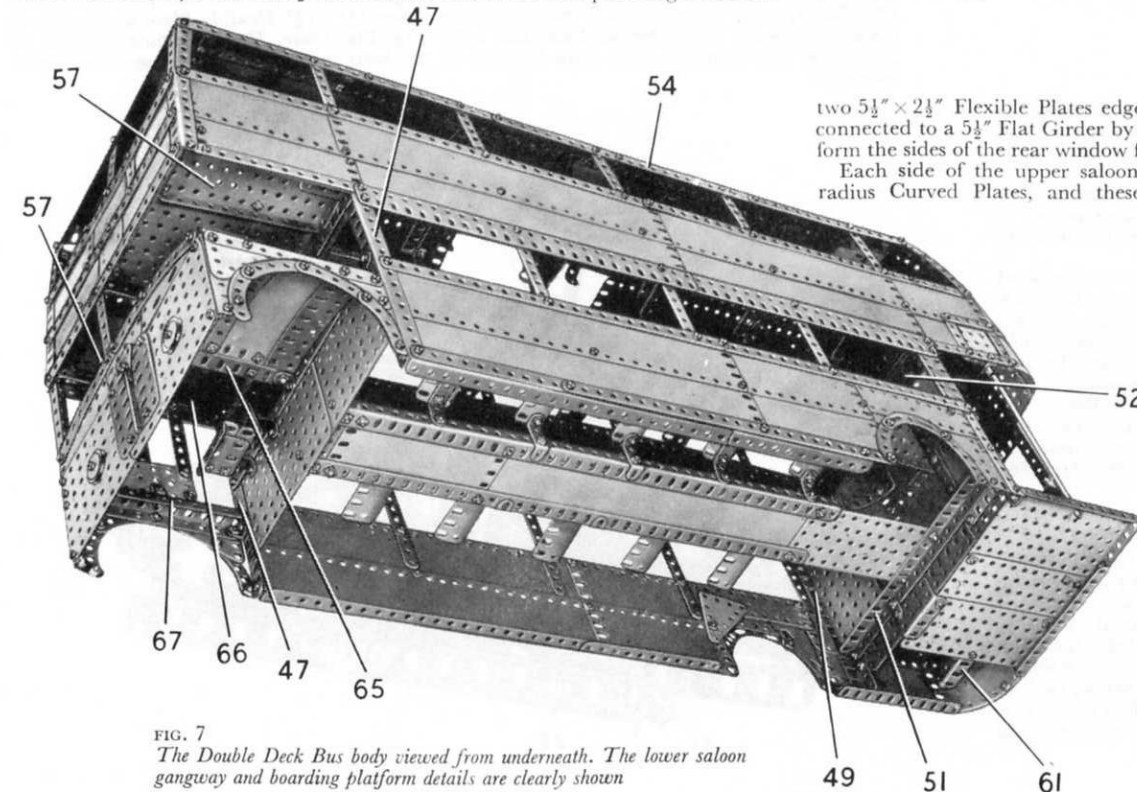
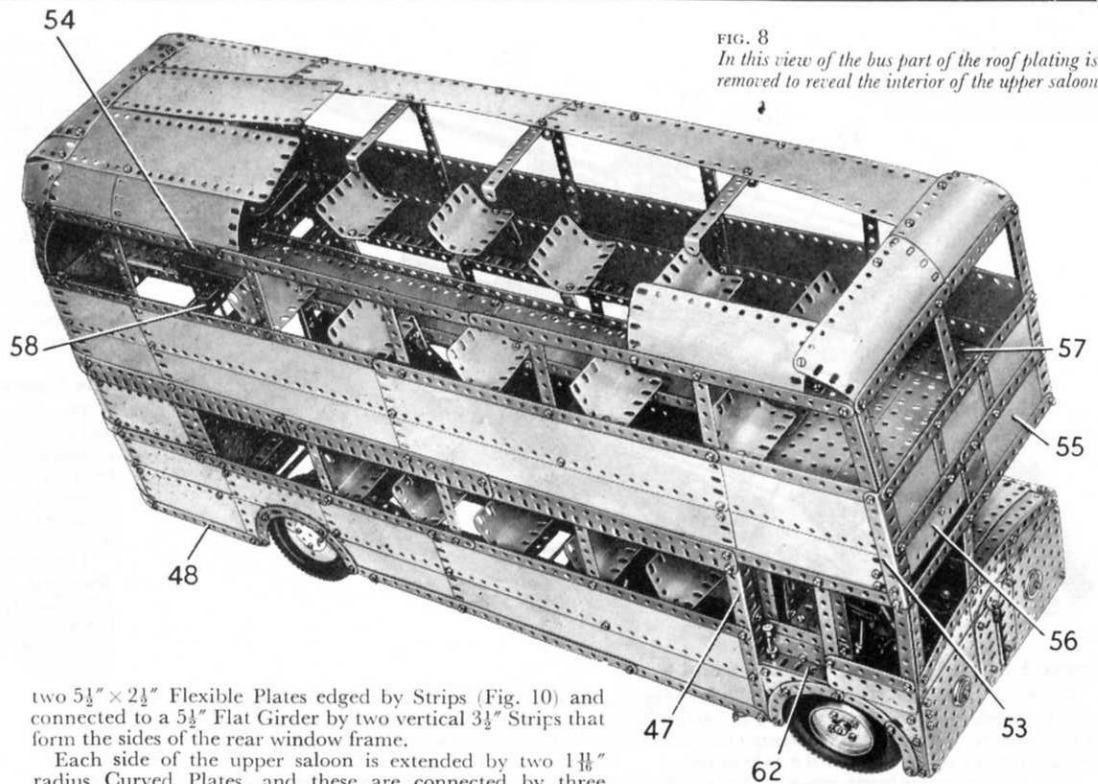

FIG. 7
FIG. 8
The Lower Saloon (Figs. 8 and 9)
The side seen in Fig. 8 consists of two $12\frac{1}{2}" \times 2\frac{1}{2}"$ Strip Plates and four $5\frac{1}{2}" \times 2\frac{1}{2}"$ Flexible Plates, with a $5\frac{1}{2}" \times 1\frac{1}{2}"$ Flexible Plate and a $3\frac{1}{2}" \times 2"$ and a $2\frac{1}{2}" \times 1\frac{1}{2}"$ Triangular Flexible Plate over the rear wheel arch. The Plates are fixed to a $7\frac{1}{2}"$ Angle Girder (47) at the front, and are edged along the top by two $12\frac{1}{2}"$ Strips and a $5\frac{1}{2}"$ Strip. The lower edges are strengthened by a $12\frac{1}{2}"$ Strip, a $5\frac{1}{2}"$ Strip and a $5\frac{1}{2}"$ Angle Girder (48), with a $12\frac{1}{2}"$ and a $5\frac{1}{2}"$ Angle Girder bolted to the inside (Fig. 7). A $9\frac{1}{2}"$ Angle Girder (49) is fixed vertically to the side, and to it is bolted a $4\frac{1}{2}" \times 2\frac{1}{2}"$ Flexible Plate and a $3\frac{1}{2}"$ Flat Girder. The window divisions are $12\frac{1}{2}"$ Strips, each of which overlaps the side by four holes. These Strips are connected by three $9\frac{1}{2}"$ Flat Girders. A $24\frac{1}{2}"$ Angle Girder is bolted along the top row of holes in the Flat Girders, on the inside, starting at the Girder (49) so that it overhangs the Girder (47) by three holes.
The sides are connected at the front by two $5\frac{1}{2}" \times 3\frac{1}{2}"$ Flat Plates overlapped three holes and edged at the top by a $9\frac{1}{2}"$ Strip. The Flat Plates are fixed to the Girders (47), and a $9\frac{1}{2}"$ Angle Girder (50) is bolted between their top ends. A vertical $5\frac{1}{2}" \times 1\frac{1}{2}"$ Flexible Plate is attached to the centre of the Girder (50) and to the Flat Plates. At the rear the sides are connected by $9\frac{1}{2}"$ Angle Girders (51) and (52) (Fig. 7), bolted to the Girders (49).
The side seen in Fig. 8 consists of two $5\frac{1}{2}" \times 2\frac{1}{2}"$ Flexible Plates, four $12\frac{1}{2}" \times 2\frac{1}{2}"$ Strip Plates and two $4\frac{1}{2}" \times 2\frac{1}{2}"$ Flexible Plates. These are fixed to the vertical $12\frac{1}{2}"$ Strips that form the window divisions. At the front a $4\frac{1}{2}"$ Angle Girder (53) is connected to the top edge of the lower saloon by a $7\frac{1}{2}"$ Strip. The top edges of the Plates are strengthened by two $12\frac{1}{2}"$ Strips and two $5\frac{1}{2}"$ Strips. A built-up strip (54), made from three $12\frac{1}{2}"$ Strips, is bolted to the top ends of the window divisions. In addition to the vertical $12\frac{1}{2}"$ Strips, two $5\frac{1}{2}"$ Strips, a 4" Curved Strip and a $3\frac{1}{2}"$ Strip at the front, are used to form the windows of the upper saloon.
At the front of the bus the Girders (53) are connected by two $9\frac{1}{2}$ " Strips and a built-up strip made from two $5\frac{1}{2}$ " Strips overlapped three holes (Fig. 8). The front is plated by three $3\frac{1}{2}$ " \times $2\frac{1}{2}$ " Flexible Plates at the top, with one half of a Hinged Flat Plate (55), a $2\frac{1}{2}$ " \times $1\frac{1}{2}$ " Flexible Plate and a $5\frac{1}{2}$ " \times $1\frac{1}{2}$ " Flexible Plate (56) below them. The Plate (56) is extended upward by another $5\frac{1}{2}$ " \times $1\frac{1}{2}$ " Flexible Plate, and this is recessed from the $3\frac{1}{2}$ " \times $2\frac{1}{2}$ " Flexible Plates by nuts on the bolts that fix them together. The front ends of the strips (54) are connected by Angle Brackets to two $5\frac{1}{2}$ " Strips overlapped three holes.
A $5\frac{1}{2}$ " \times $2\frac{1}{2}$ " Flanged Plate (57) (Fig. 7) is bolted to each side, and these are connected by a $5\frac{1}{2}$ " \times $3\frac{1}{2}$ " Flat Plate and a $5\frac{1}{2}$ " \times $2\frac{1}{2}$ " Flat Plate. At the rear a $9\frac{1}{2}$ " Flat Girder (58) is bolted between the top ends of the Girders (49) and a $5\frac{1}{2}$ " \times $2\frac{1}{2}$ " Flanged Plate is fixed between this Flat Girder and the rear panelling. Two $4\frac{1}{2}$ " \times $2\frac{1}{2}$ " Flexible Plates secured to the Flanged Plate provide a cover over the boarding platform. A $4\frac{1}{2}$ " Angle Girder is fixed to the centre of the Flat Girder (58).
Rear Panelling and Boarding Platform (Figs. 7, 8 and 10)
The side of the lower saloon seen in Fig. 8 is extended at the rear by three curved $5\frac{1}{2}"$ \times $2\frac{1}{2}"$ Flexible Plates, the lower one edged by a Formed Slotted Strip at the bottom, and by a curved $5\frac{1}{2}"$ Strip along its top edge. The lower edge of the top Plate is covered by a curved $5\frac{1}{2}"$ Flat Girder. The lower rear panelling consists of
The platform floor is formed by a $5\frac{1}{2}"$ \times $3\frac{1}{2}"$ and two $5\frac{1}{2}"$ \times $2\frac{1}{2}"$ Flat Plates edged by $5\frac{1}{2}"$ Angle Girders as shown (Figs. 7 and 10). A built-up flat girder, made from a $7\frac{1}{2}"$ and a $2\frac{1}{2}"$ Flat Girder, is bolted to a $9\frac{1}{2}"$ Strip fixed across the Girders (49) and is connected to the floor by a Girder Bracket.
The Bonnet and Cab (Figs. 8 and 9)
The off-side of the cab is made by attaching a $5\frac{1}{2}$ " Angle Girder (62) (Fig. 8), to the Girder (47) by means of an Angle Bracket. The front end of the Girder (62) is connected to the Girder (53) by a $5\frac{1}{2}$ " Strip. The side is plated by a $2\frac{1}{2}$ " \times $1\frac{1}{2}$ " and a $2\frac{1}{2}$ " \times $2\frac{1}{2}$ " Triangular Flexible Plate, and by a 3 " \times $1\frac{1}{2}$ " Flat Plate.